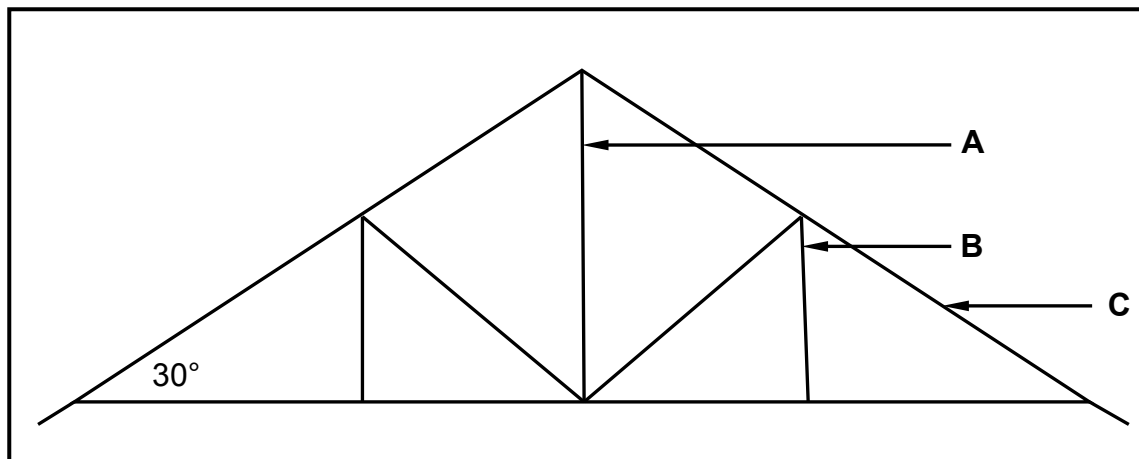

FIGURE 1.3
1.3 FIGURE 1.3 below shows the line diagram of a roof truss.
- 1.3.3 Motivate why the roof truss in FIGURE 1.3 cannot be covered with grass (thatch). (1)
- 1.3.4 Name ONE roof covering that can be used for the roof in FIGURE 1.3 if battens (38 mm x 38 mm) are used to keep the roof covering in place. (1)